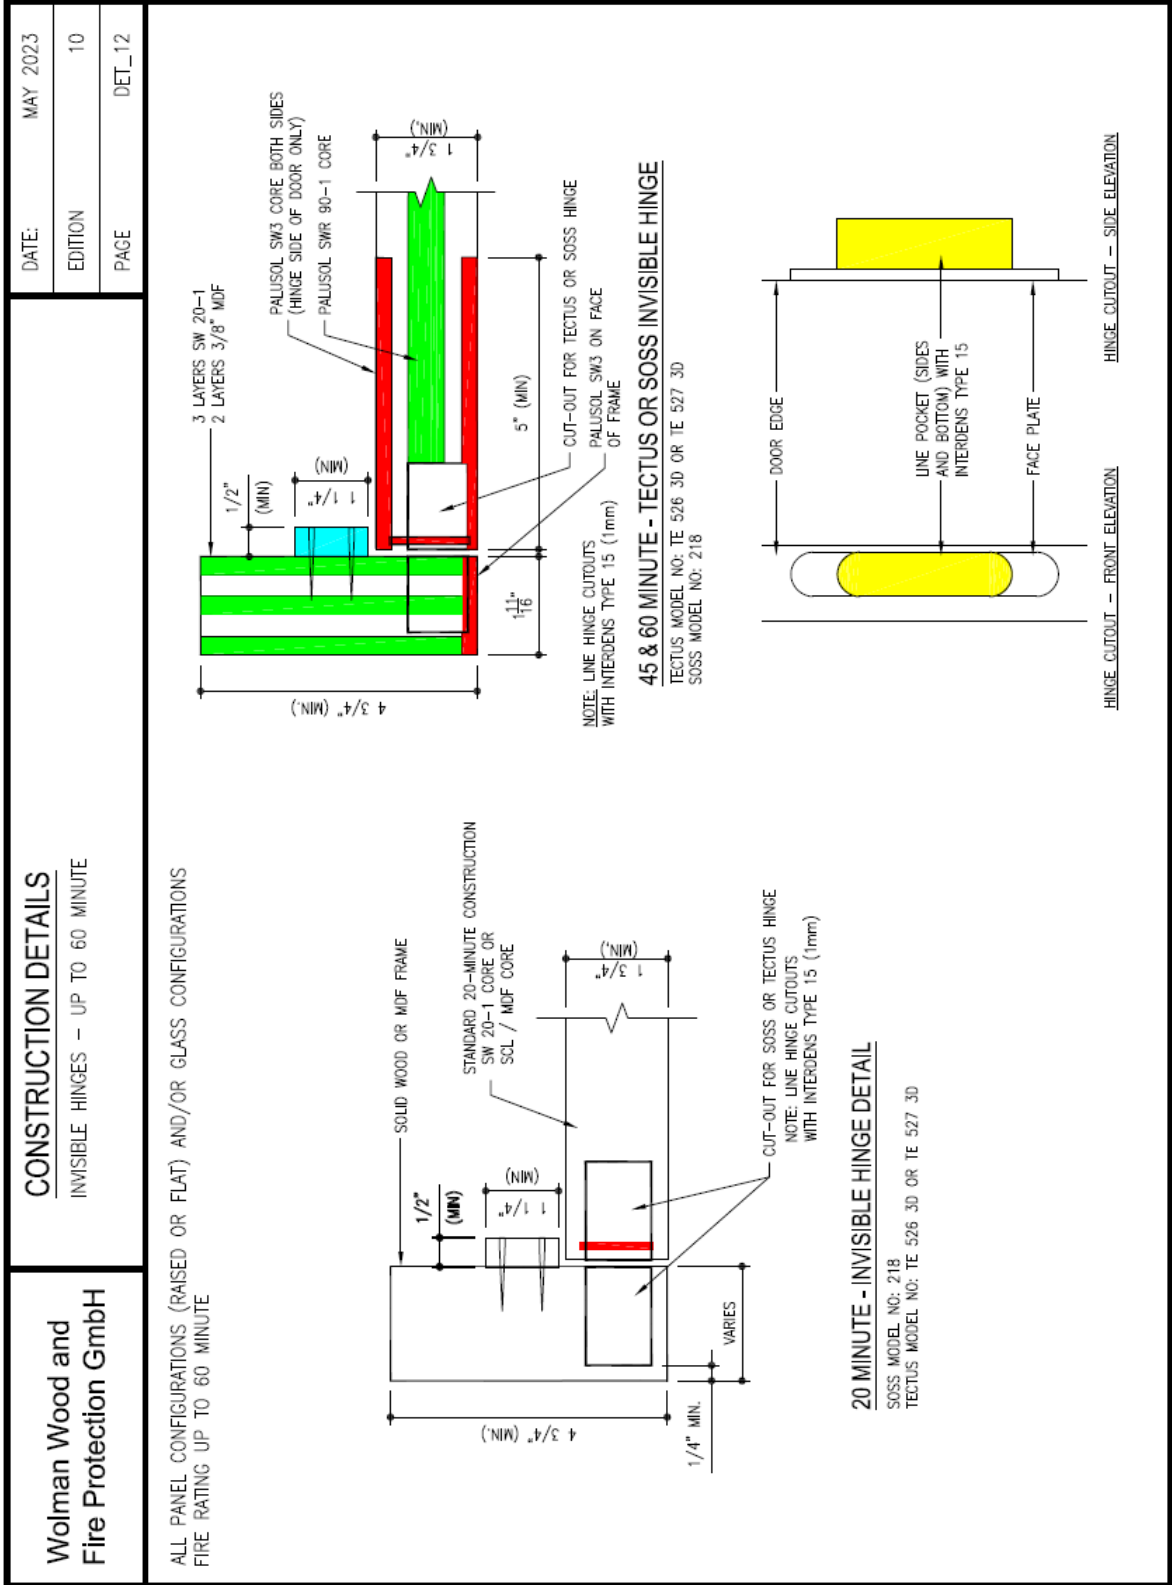

Figure 10: 60 minute frame construction details for use with TECTUS and SOSS Hinges.
- layers of MDF and SW20-1 (Figure 10).
Concealed TECTUS TE 526 or TE 527 or SOSS Hinge #218 allowed in the frame jamb. Pocket dimensions machining per manufacturer's instructions. [See Figure10].
Hinge jamb is constructed with 3 layers of MDF and Palusol SW 20-1 core. Minimum 1-7/8" frame thickness [See Figure 10].